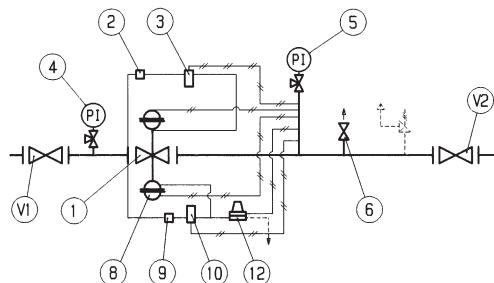

Fig. 24
5.5 MESSA IN SERVIZIO DEL REGOLATORE REFLUX 819 CON MONITOR INCORPORATO PM/819 E VALVOLA ACCELERATRICE (FIG. 24)